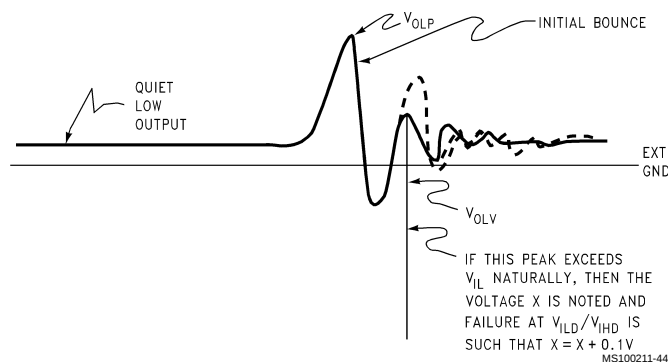

FIGURE 35.
3. If the natural ringing, other than the initial bounce, of the output violates an input threshold level, the starting voltage level is noted and monitored until a 100 mV amplitude change towards threshold. If no amplitude change occurs, then the next peak or valley on the output is monitored for input threshold violation. *Figure 35*.